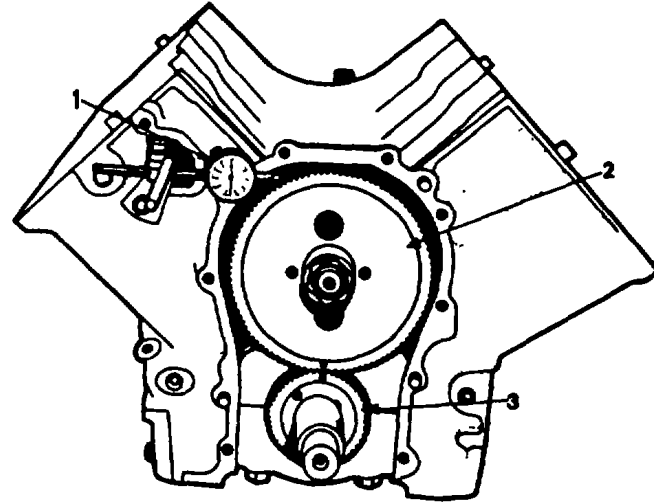

Figure 53. Checking Camshaft and Crankshaft Gear Backlash
2. Mount dial indicator on front of engine and check and record camshaft gear-to-crankshaft gear backlash (Figure 53). If backlash exceeds specified limits (See SPECIFICATIONS), timing gears should be replaced.